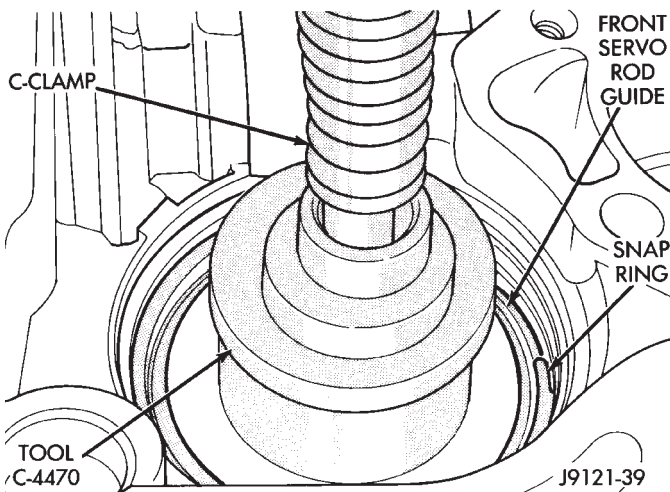
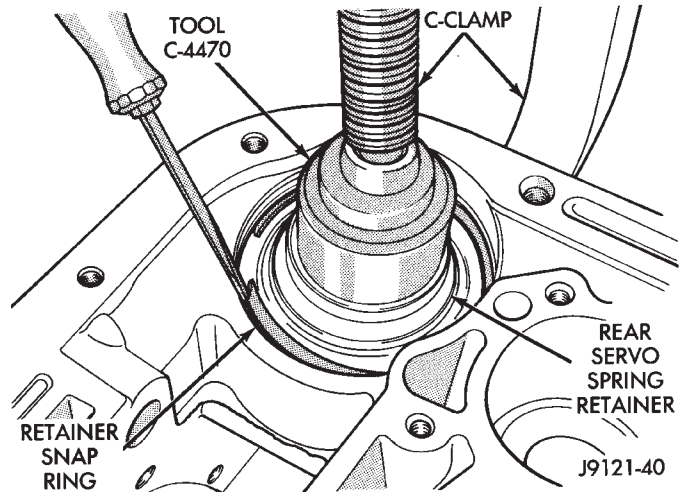

Fig. 119 Front Servo Retaining Snap Ring
Fig. 120 Rear Servo Retaining Snap Ring
(33) Compress front servo rod guide with large C-clamp and Tool C-4470, or Compressor Tool C-3422-B (Fig. 119). Compress guide only enough to permit snap ring removal (about 1/8 in.).
(34) Remove servo piston snap ring (Fig. 119). Unseat one end of ring. Then carefully work removal tool around back of ring until free of ring groove. **Exercise caution when removing snap ring. Servo bore can be scratched or nicked if care is not exercised.**
(35) Remove tools and remove servo piston and spring.
(36) Compress rear servo piston with C-clamp and Tool C-4470, or Valve Spring Compressor C-3422-B (Fig. 120). Compress servo spring retainer only enough to permit snap ring removal.
(37) Remove servo piston snap ring (Fig. 120). Start one end of ring out of bore. Then carefully work removal tool around back of snap ring until free of ring groove. **Exercise caution when removing snap ring. Servo bore can be scratched or nicked if care is not exercised.**
(38) Remove tools and remove rear servo retainer, spring and piston assembly.